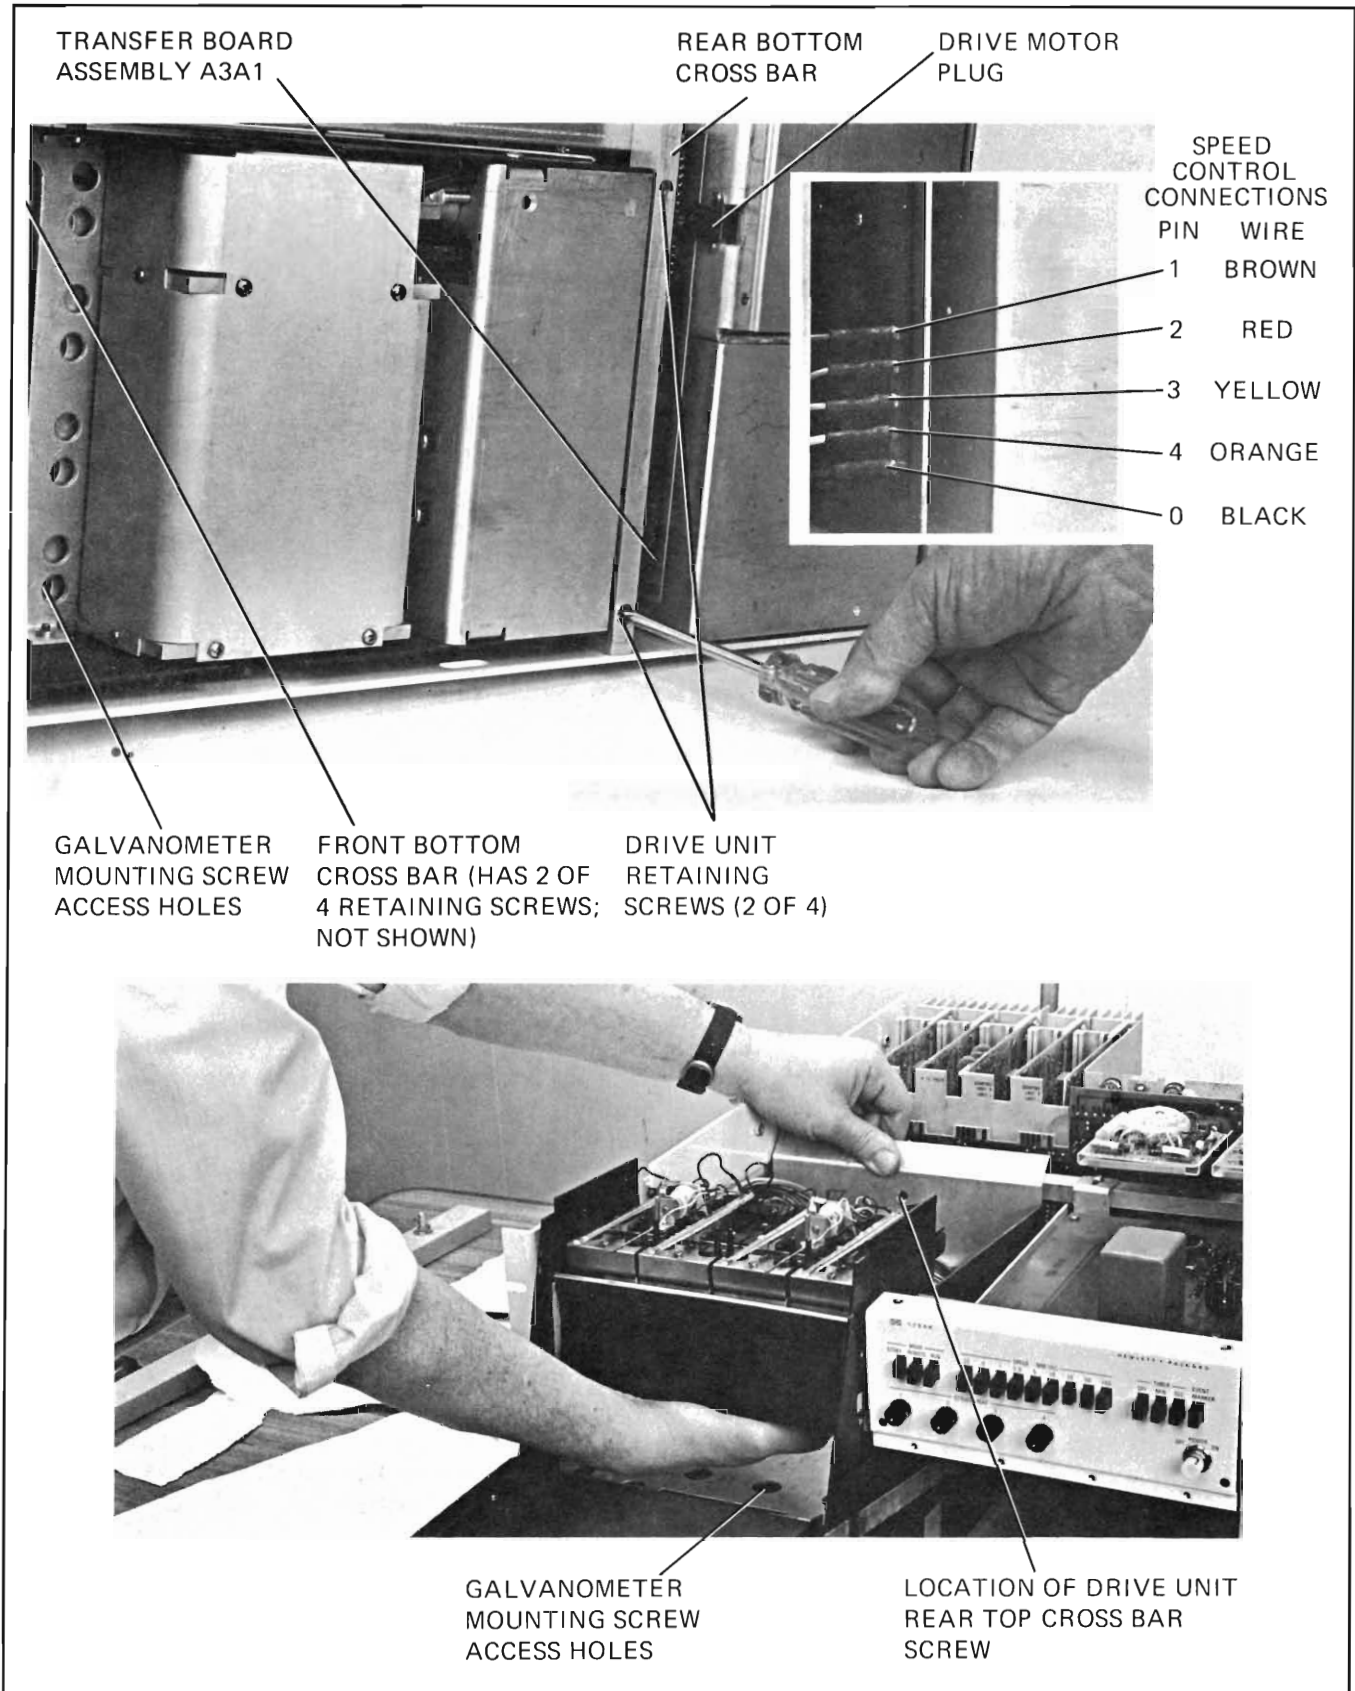

Figure 5-12. Drive Unit Removal
- Refer to Figure 5-12 and disconnect the drive motor plug and speed control wires (inset). Remove four screws from the front and rear bottom cross bars. Two typical screws are shown in the illustration.
- Remove one flat-head Pozidriv screw from upper rear center portion of paper feed tray on Drive Unit (Figure 5-12, lower illustration).